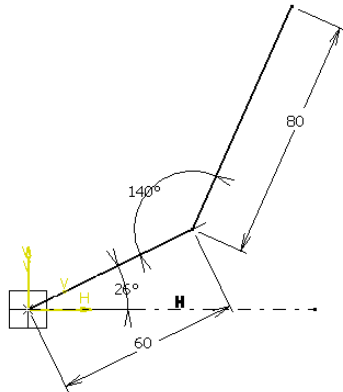

Figure 5-72 Reference sketch
- Start a new file in the **Part** workbench and create the base feature of the model by extruding the sketch along the selected direction, refer to Figures 5-72 through 5-76.
2. Draw the sketch, as shown in Figure 5-72, and then exit the **Sketcher** workbench.